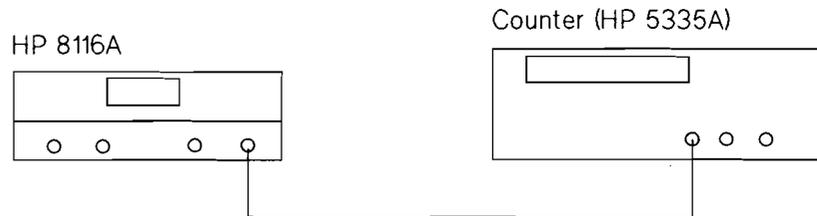

Figure 8-3. Pulse Width Performance Test - Stage 1
1. Connect the HP 8116A and counter as shown in Figure 8-3.